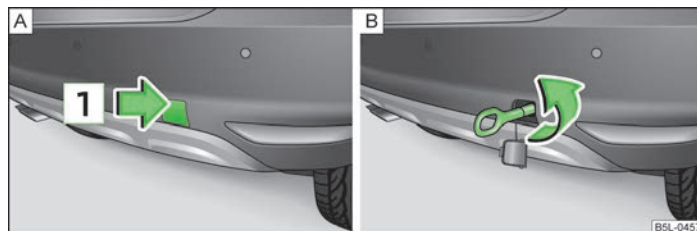

Fig. 164 Rear bumper: Removing the cap/installing the towing eye
- Press on the upper half of the cover in direction of arrow **1** » Fig. 164.
- Remove the cap from the rear bumper » Fig. 164 - **A**.
- Screw in the towing eye by turning to the left up to the stop » Fig. 164 - **B** and tighten as much as possible.